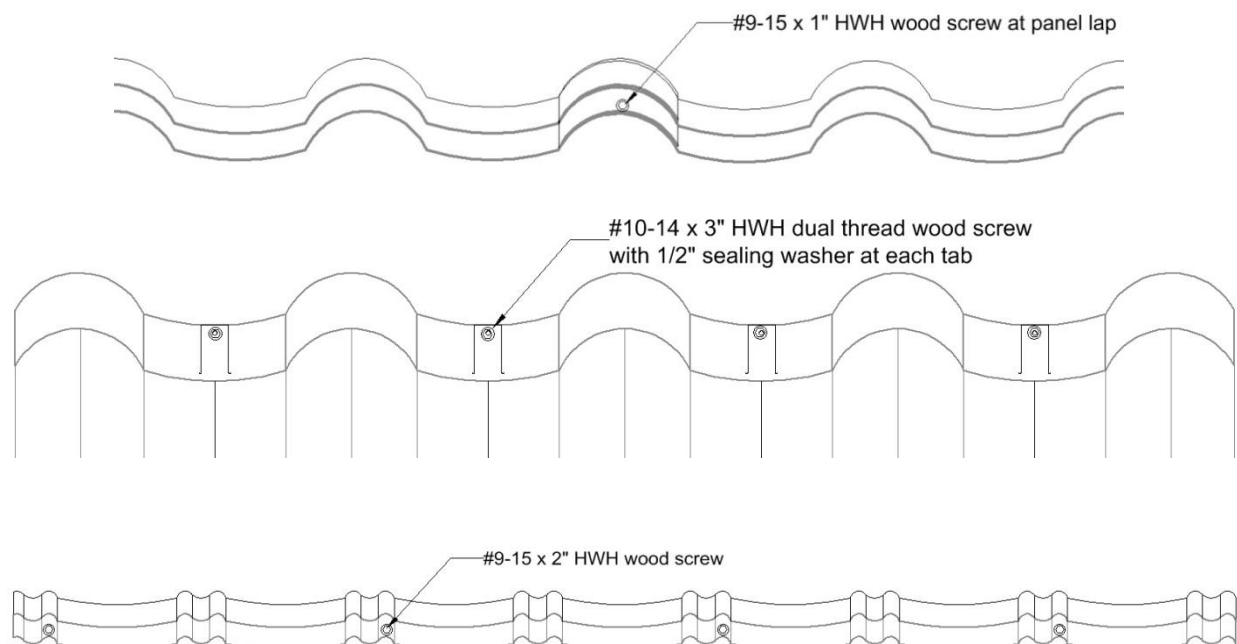

Figure 3: Terrabella Premium Panels Fastened to Deck
Panel Attachment: The panels are secured to the roof deck with four (4) No. 10-14 x 3" HWH self-drilling, dual thread corrosion resistant wood screws with $\frac{1}{2}$ " sealing washers per panel. The screws are installed $7\frac{1}{4}$ " from each edge of the panel and spaced $8\frac{7}{8}$ " between the edge screws through the preformed fastening tabs securing the panel to the deck. One (1) No. 9-15 x 1" HWH wood screw installed at the vertical section of the head/side lap. Refer to Figure 3 for attachment details.